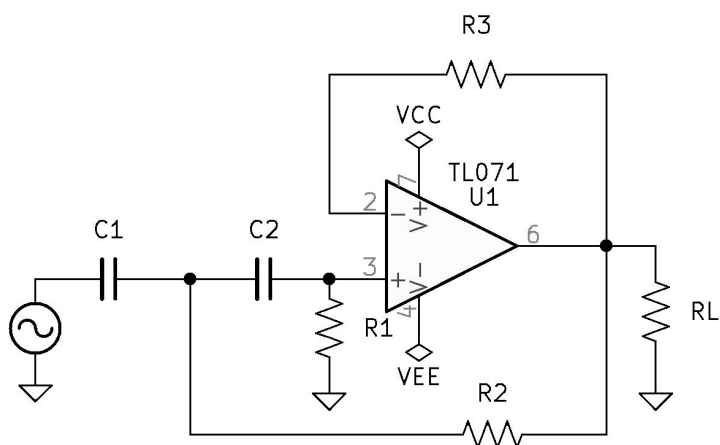

Figure 8.7: High-Pass Second-Order Active Filtering Circuit.
1. See Figure 8.7 *High-Pass Second-Order Active Filtering Circuit* on page 83.